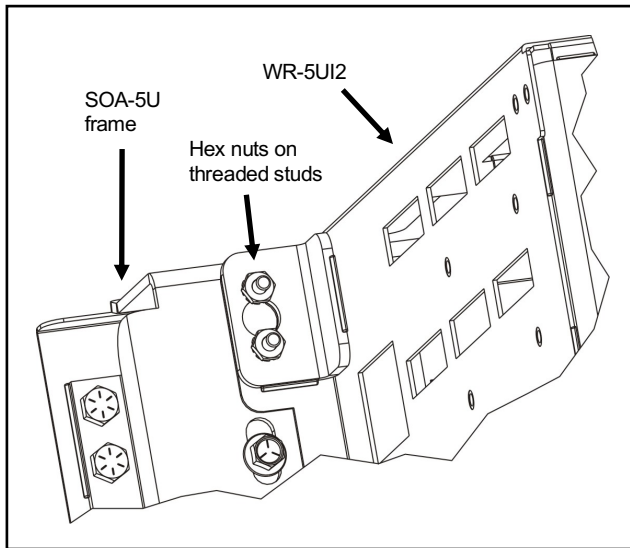

Figure 5. WR-5UI2 attachment (one corner shown)
- ① Locate eight of the included #10-32 hex nuts.
- ② Choose a preferred orientation for the WR-5UI2 and align its mounting holes with the four pairs of threaded studs on the face of the SOA-5U frame (one pair in each corner). Hex nuts will be installed on the studs, as shown in Figure 5.
- ③ Finger tighten a hex nut in each of the upper corners. Install the additional hex nuts and securely tighten nuts on all eight studs.